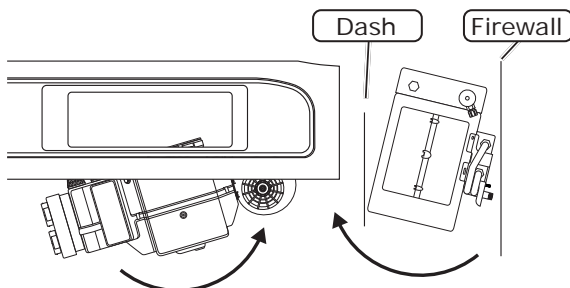

Figure 1
3. Rotate the evaporator unit blower end up first, and angle the bottom of the evaporator toward the dash (See Figure 1, below).